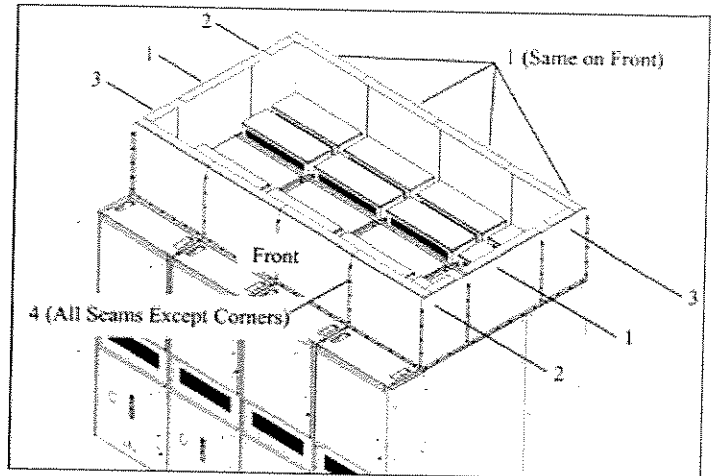

Figure 15. Installing the Remaining Arc Exhaust Wall Vertical Panels.
3. Tighten down the 0.25" cap screws left loose in Step 12-C-1, then insert and tighten the remaining cap screws along the bottom flange of wide vertical panel (1) to complete the left wall.
- D. Assemble the remaining arc exhaust wall vertical panels (see Figure 15).